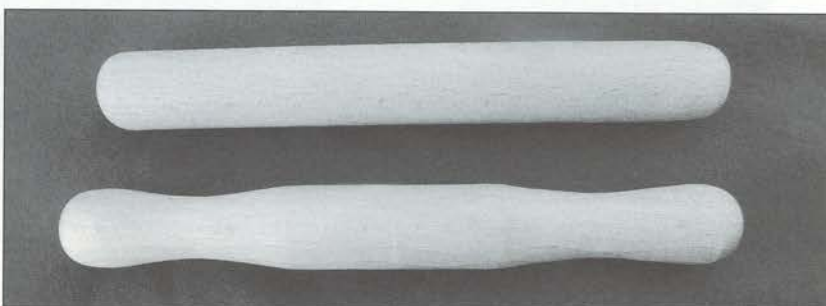

Fig 17.8 Two styles of handgrip.
The handgrips (H) can be made in two styles. The simplest method is to purchase a length of $1\frac{3}{16}$ in (30mm) diameter hardwood dowel and shape the ends to a rounded section. If you have a lathe, a much more attractive handgrip can be turned from a suitable hardwood such as beech or sycamore. Fig 17.8 shows designs for both types.